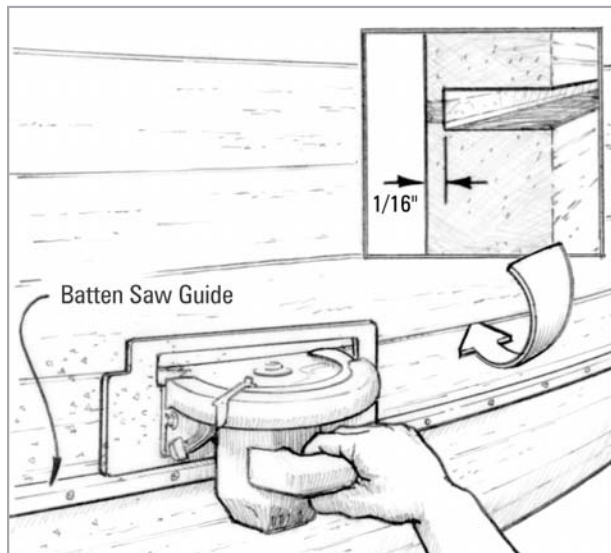

Figure 5-1 Use a circular saw to clean out plank seams.
5. Clean out each seam by running the saw along the batten (Figure 5-1). Check the depth and width of the cut. Clean out the butt joints at the ends of the plank as well. Chisel a shallow bevel on the end of the planks ($\frac{1}{4}$ " deep \times $\frac{1}{2}$ " back from the edge) (Figure 5-2). The bevel increases bonding area and reduces stress at the joint.